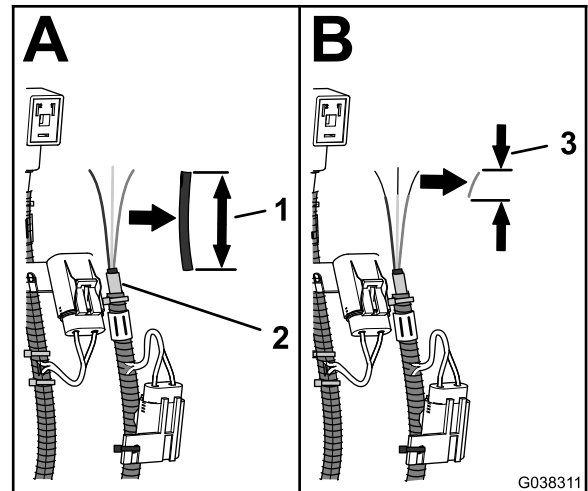

Figure 33
6. Remove a 70 mm (2-3/4 inches) section of the sheathing from the DIN connector harness (Figure 33).
7. Remove 8 mm (5/16 inch) of insulation from the 3 wires of the DIN connector harness (Figure 33).